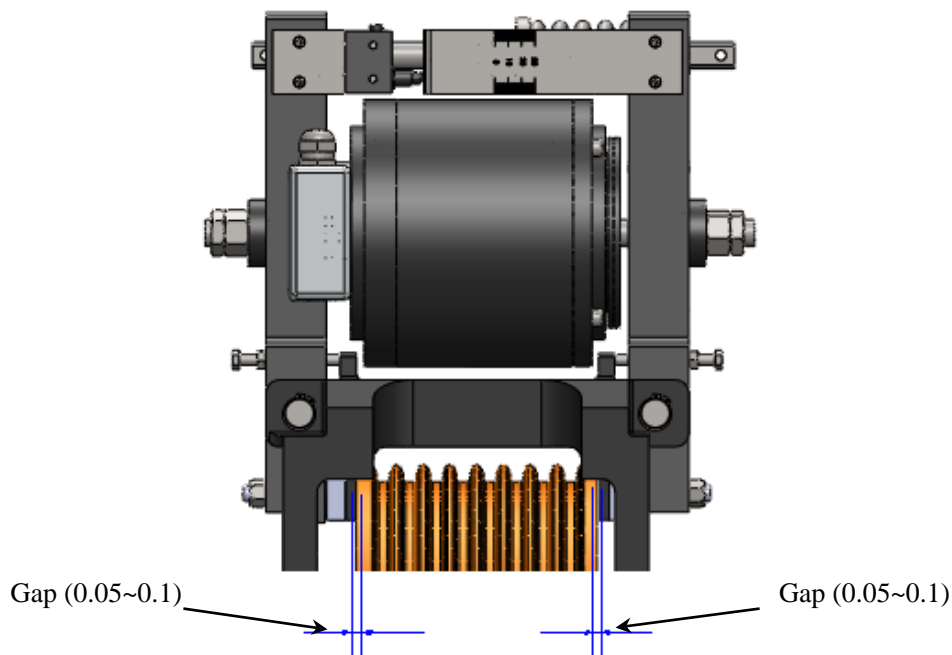

Figure 15 Emergency Brake Gap
1. Measure the gap between the side of the drive sheave and emergency brake lining with the feeler gauge 0.05~0.1mm (0.002”~0.004”) when the brake is open. See Figure 15. Use the 0.05 mm (0.002”) feeler gauge as a “go gauge”, and the 0.1 mm (0.004”) as a “no go gauge”.